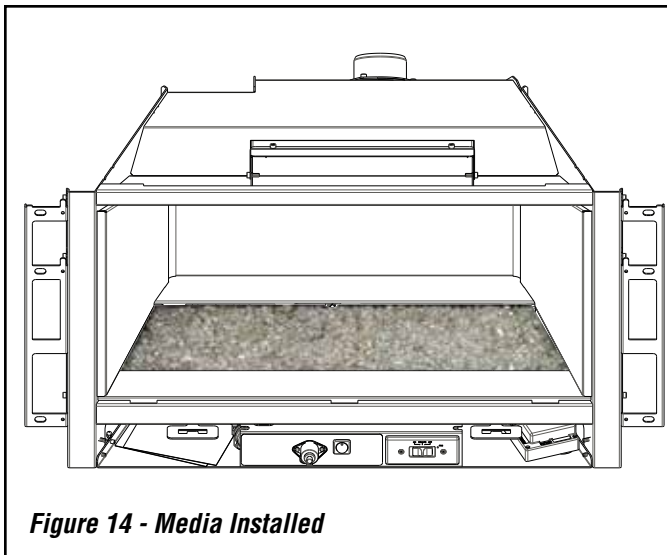

Figure 14 - Media Installed
2. Distribute the measured amount of media in an even layer in the recessed area on top of the burner (*shaded area in Figure 14*).